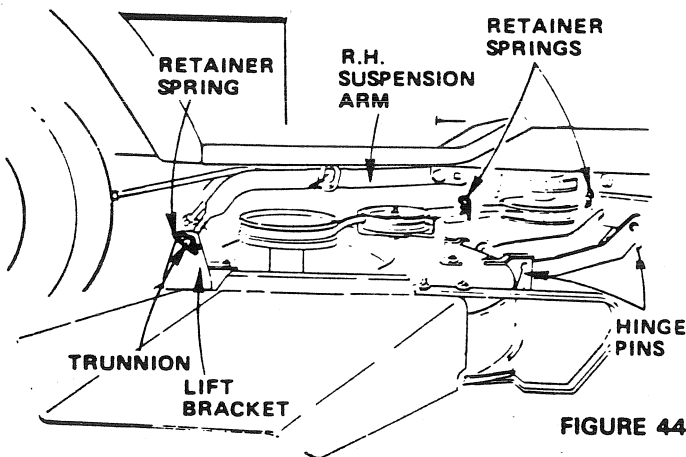

FIGURE 44
3. Pull Retainer Springs out of Rear Suspension Trunnions. Remove Rear Suspension Trunnions from Lift Brackets (Fig. 44).
5. Pull Retainer Spring out of Front Hinge Pin. Remove Front Hinge Pin (Fig. 44).
NOTE: IF AN ATTACHMENT OTHER THAN THE MOWER DECK IS TO BE MOUNTED ON THE TRACTOR, THE L.H. AND R.H. SUSPENSION ARMS (FIG. 44). SHOULD BE REMOVED FROM TRACTOR.